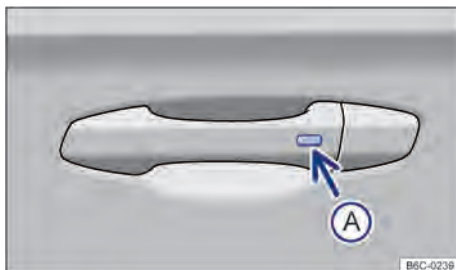

Fig. 55 On the door handle: button to unlock or lock.
- ① Press the button → Fig. 55 Ⓐ on the outside of the door handle.
- ① Park the vehicle and switch off the ignition.
- ② Press the button → Fig. 55 Ⓐ on the outside of the door handle.
- Within 5 seconds, press the button on the outside of the door handle → Fig. 55 . So, don't grab the door handle. The Keyless Access locking and starting system is temporarily disabled.